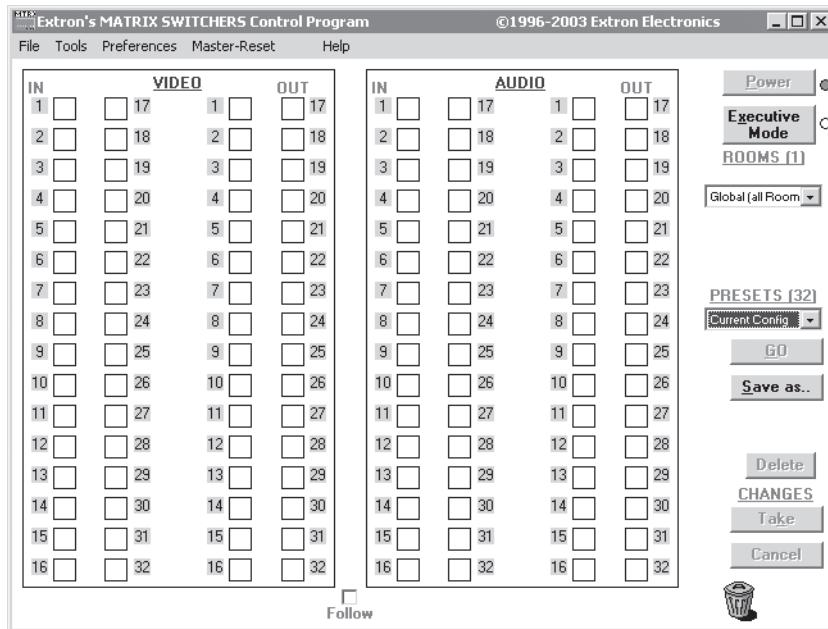
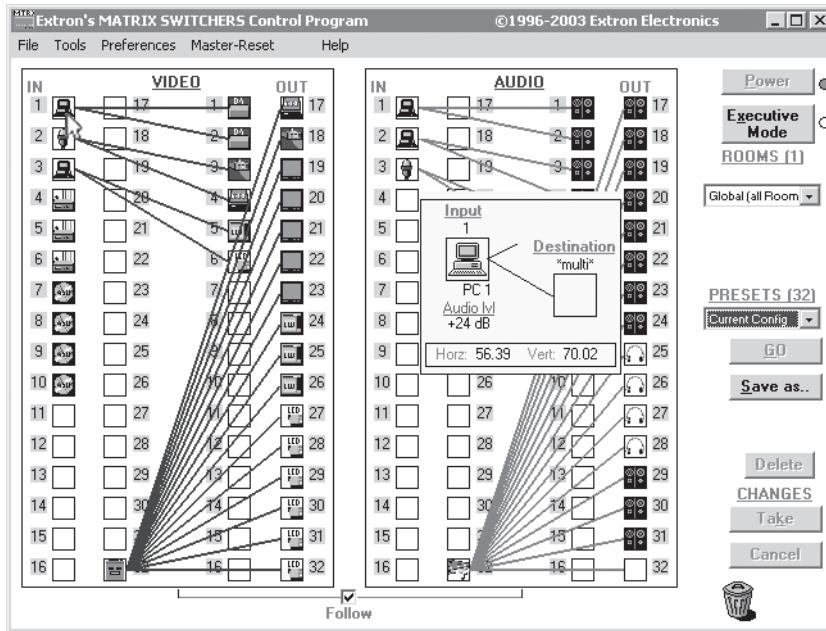

Figure 5-5 — Extron Matrix Switchers Control Program window (blank)
Figure 5-6 — Sample program window (complete)
4. The Extron Matrix Switchers Control Program window (figure 5-5 and figure 5-6) appears. The window displays the current configuration of the attached matrix.
- For quick display of information on a specific input or output device, position the cursor over that device in the control program window. The program opens a window that details the connections to that device, the audio level, and, for CrossPoint 450 Plus switchers only, the switching interval (RGB delay) and the frequency of the video signal input from or output to that device. See the inset box in figure 5-6.